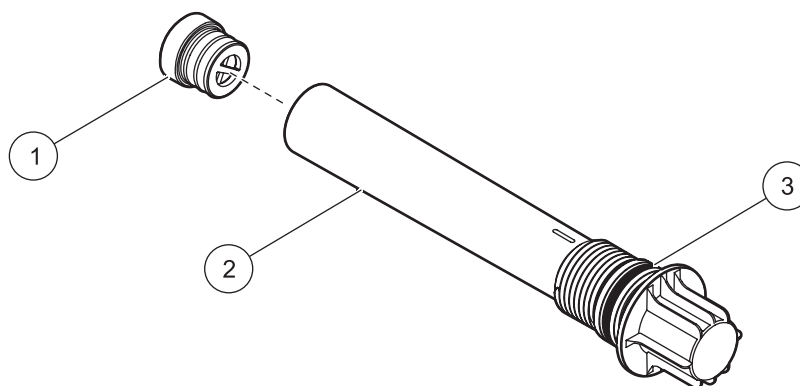

Figure 38 Desiccant holder
2. Remove the plug from the end of the desiccant tube (Figure 38) and discard the spent desiccant.
5. Apply grease to the O-ring (Figure 38).